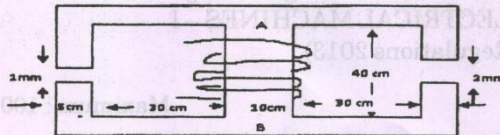

Fig. 11 (a)
11. a) For the magnetic circuit shown in Fig. 11 (a), with a core thickness of 5 cm, exciting current of 0.5A wound with 1000 turns coil, find the flux density and flux in each of the outer limbs and the central limb. Assume relative permeability for iron of the core to be a) infinity b) 4500. (13)